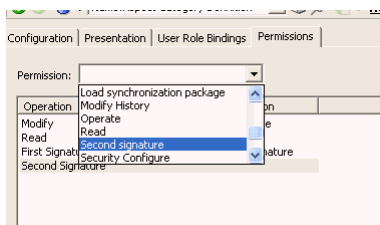

Figure 104. Permission for Signing
6. Select permission for the operation in the **Permission** drop-down menu, see Figure 104. Click **Apply**.